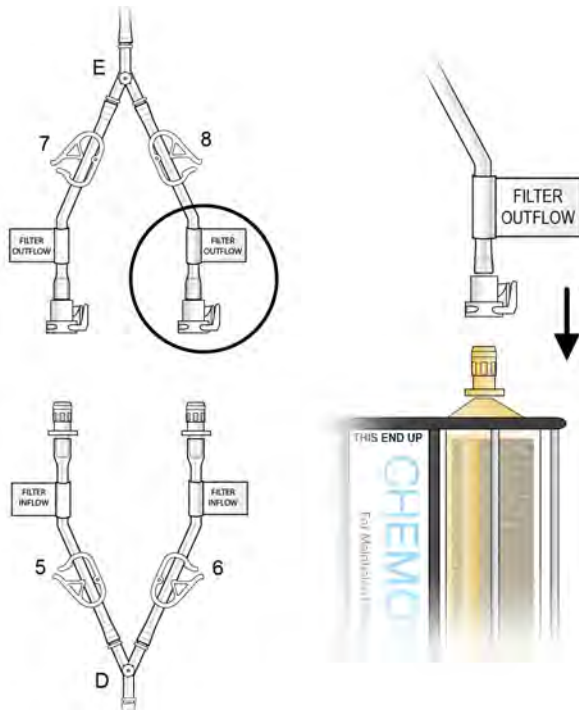

Figure 8
- (g) Connect the outflow lines (labeled and identified as in Figure 8) to the filter cartridge outlet connectors located on the top of the dual filter using the quick connector couplings (push and click), see Figure 8.